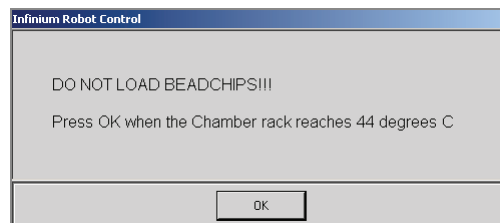

Figure 177 Adjusting Chamber Rack to 44°C Message
2. When the prompt appears (Figure 177), wait for the Chamber Rack to reach 44°C. Do not load the BeadChips or click **OK** yet.
3. Once the temperature probe registers 44°C, click **OK** (Figure 177).